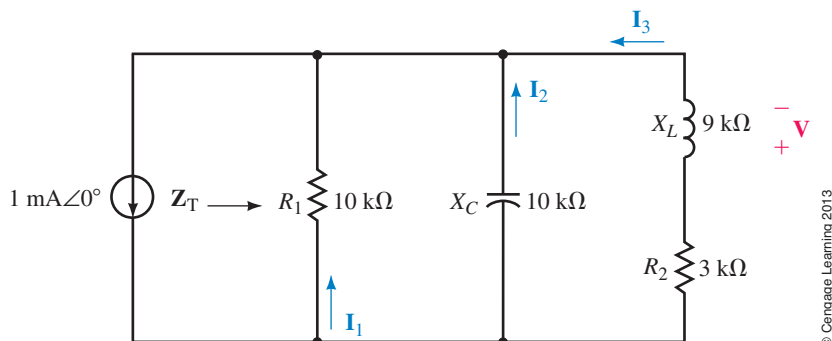

FIGURE 18-117
49. Refer to the circuit of Figure 18-117: